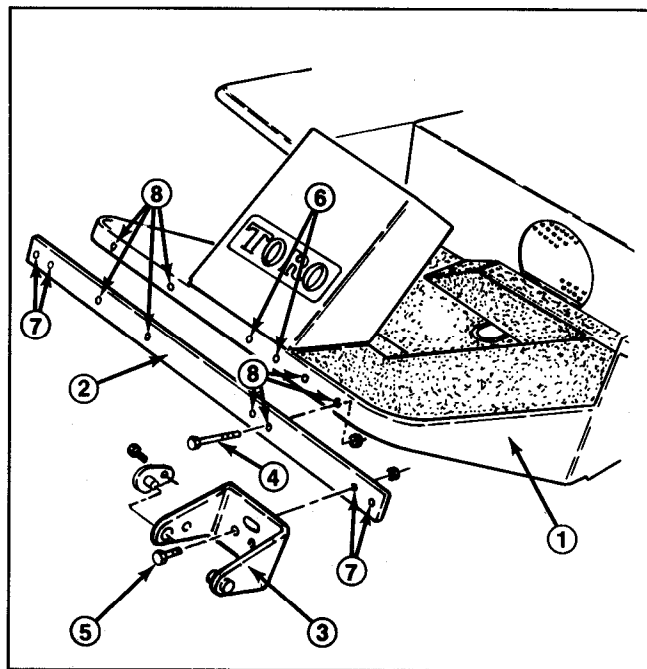
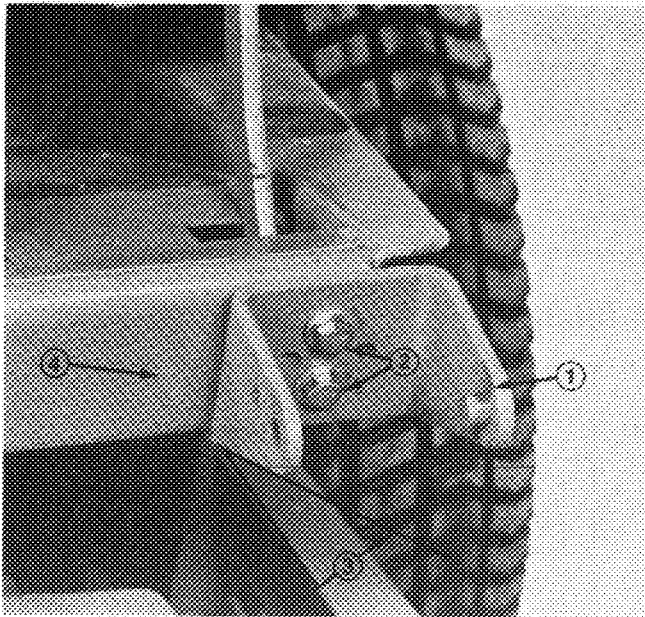
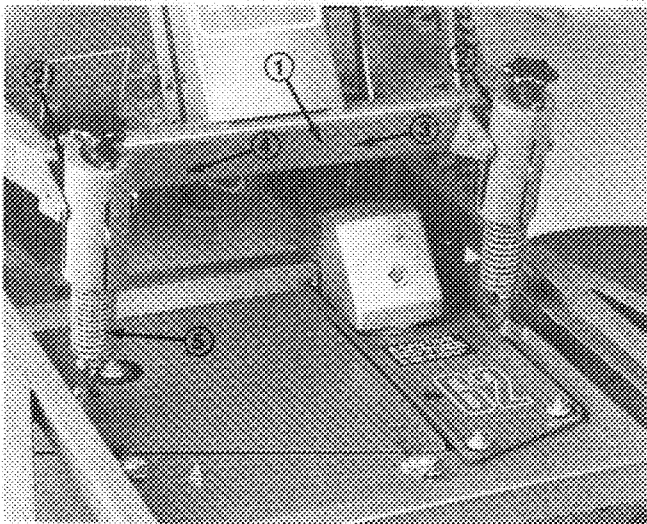

Figure 1
Figure 2
Figure 3
3. FOR 52" CUTTING DECKS - To install a weight transfer kit on either a Groundsmaster® 217D or 220, use (2) 3/8" X 2-1/4" capscrews and nuts to secure mounting brackets directly to tractor frame. Use the correct existing mounting holes for the specific size deck (Fig. 1). Tighten capscrews and nuts to 45-50 ft. lbs. and proceed to step 5.
To install a weight transfer kit on a Groundsmaster 220D, use (2) 3/8" X 7/8" capscrews and nuts to secure mounting bracket directly to tractor frame (Fig. 2). Use the correct existing mounting holes for the specific size deck (Fig. 3). Tighten capscrews and nuts to 45-50 ft. lbs. and proceed to step 5.
**NOTE:** On a Groundsmaster 217D or 220 the mounting bracket angles downward (Fig. 1). On a Groundsmaster 220D the mounting bracket angles upward (Fig. 2).
4. FOR 62" & 72" CUTTING DECKS -- To install a weight transfer kit on either a Groundsmaster 217D or 220, use (4) 3/8" X 2-1/4" cap screws and nuts to secure adapter bar directly to tractor frame. Use the correct existing mounting holes for the specific size deck (Fig. 1). Tighten cap screws and nuts to 45-50 ft. lbs.
Use (4) 3/8" X 7/8" cap screws and nuts to attach mounting brackets to adapter bar (Fig. 1). Tighten cap screws and nuts to 45-50 ft. lbs.
To install a weight transfer kit on a Groundsmaster 220D, use (4) 3/8" X 7/8" cap screws and nuts to secure mounting brackets directly to tractor frame (Fig. 2). Use the correct existing mounting holes for the specific size deck (Fig. 3). Tighten cap screws and nuts to 45-50 ft. lbs.
**NOTE:** On a Groundsmaster 217D or 220 the mounting brackets angle downward (Fig. 1). On a Groundsmaster 220D the mounting brackets angle upward (Fig. 2).